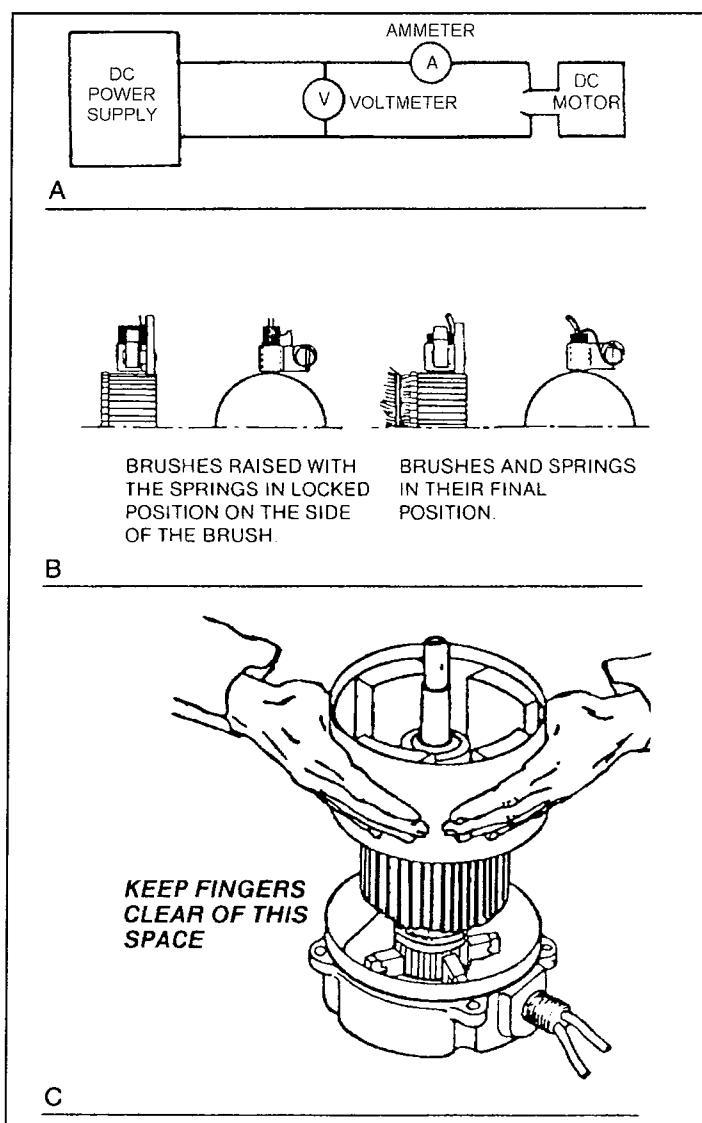

Figure 3-21: Electric Motor Service
3.16 Electric Motor (Figure 3-21)